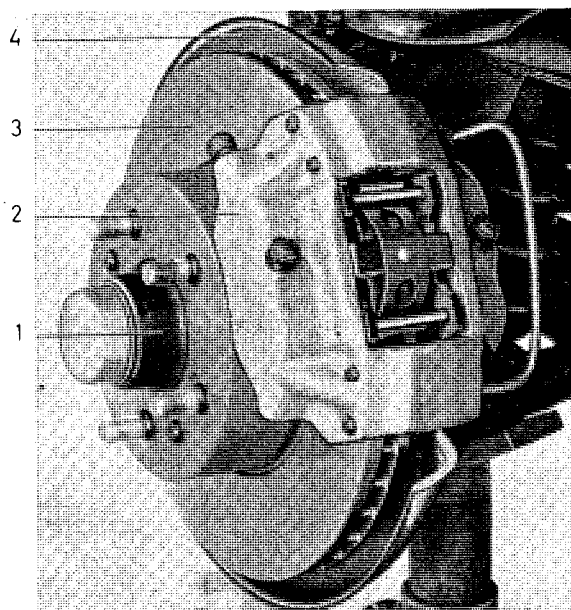

Fig. 5-7. Brake components, front wheel
Fig. 5-7 shows the location of the brake components on the front wheels. The disc (3) is of cast iron and is attached to the wheel hub with which it rotates. The disc is of the so-called "ventilated" type, that is, it has air ducts. This improves the cooling. The cover plate (4) protects the disc from dirt.